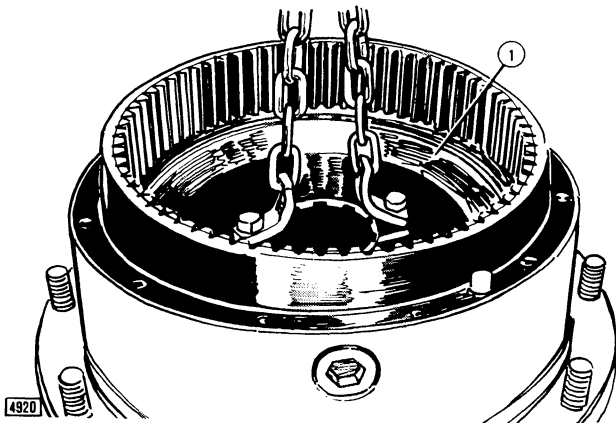

Fig. 8.8 - Lifting out internally toothed drum (1)
– Using a sling chain and screws (two off, size 12 x 1.25 mm) as shown in Fig. 8.8, lift out drum (1).